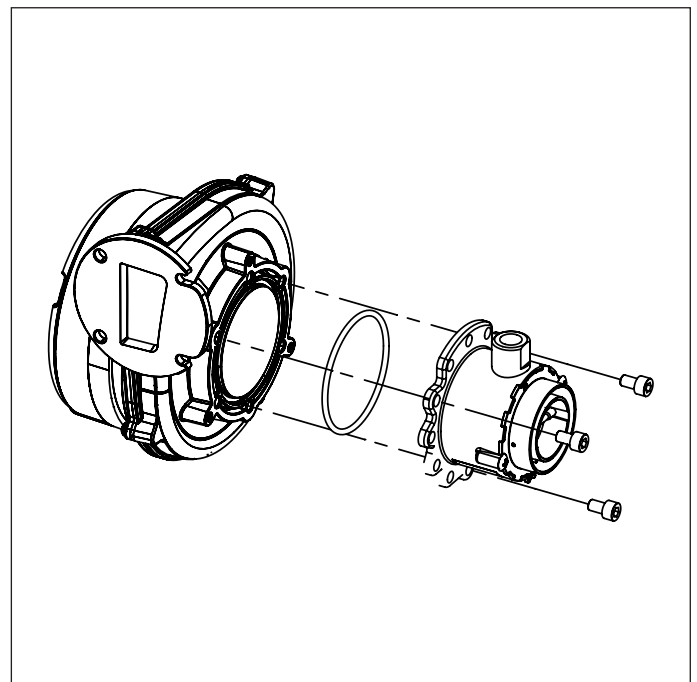

Fig. 37 Mixer
- Loosen the three socket head screws, and remove the mixer (see Fig. 37 Mixer).